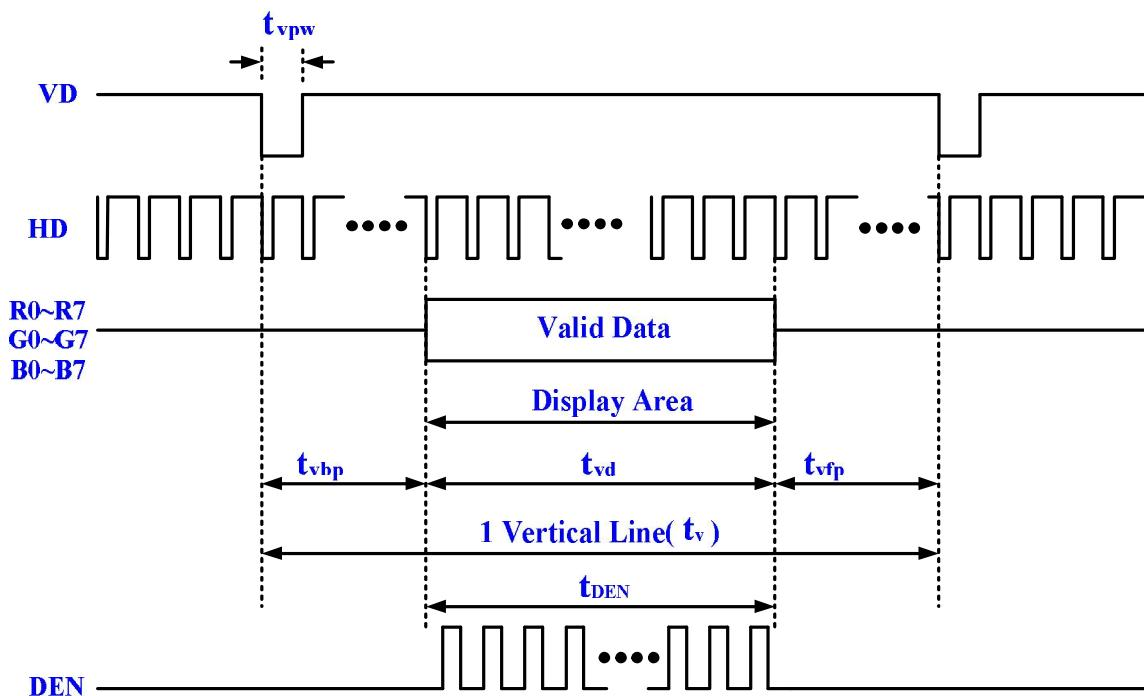

Figure 3.4 LCD vertical timing specification
The timing of the vertical synchronization (VD) is the same as shown in Figure 3.4, except that a vsync pulse signifies the end of one frame and the start of the next, and the data refers to the set of rows in the frame (horizontal timing). Table 3.2 and 3.3 show for different resolutions, the durations of time periods t_{hpw} , t_{hbp} , t_{hd} , and t_{hfp} for both horizontal and vertical timing. Finally, the timing specification of the synchronous signals is shown in the Table 3.4.